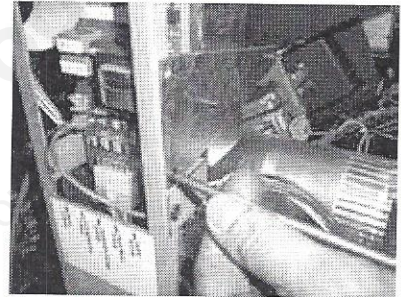

Fig. 2
Step 2 - Remove the 2 screws holding the pressure switch mount plate. (See Fig. 2)